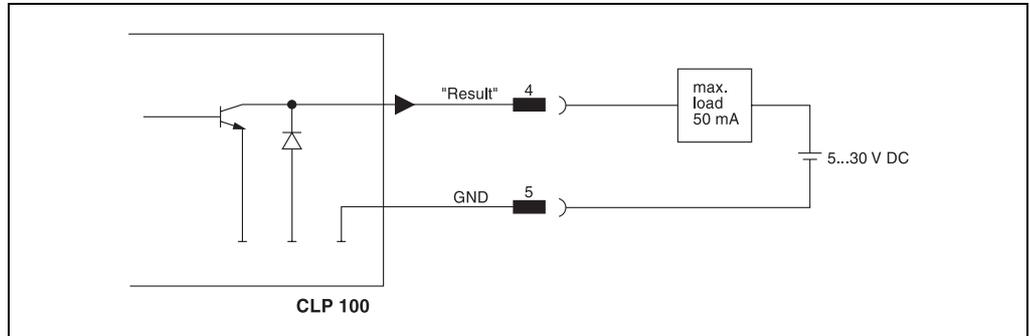

Fig. 5-4: Wiring of the "Result" switching output (NPN)
The switching output can have various result functions assigned to it. If the corresponding event occurs during a reading process, the switching output becomes live for the selected pulse duration. *Figure 5-4* shows the wiring of the "Result" switching output. *Table 5-5* lists the characteristic data of the switching output.
- Wire the switching output as described in *Figure 5-4*.